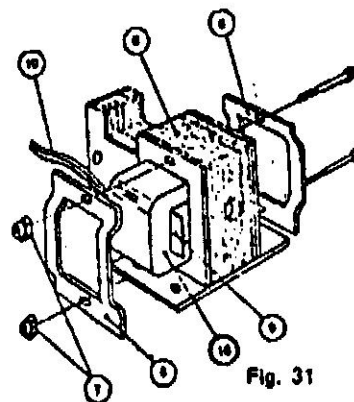
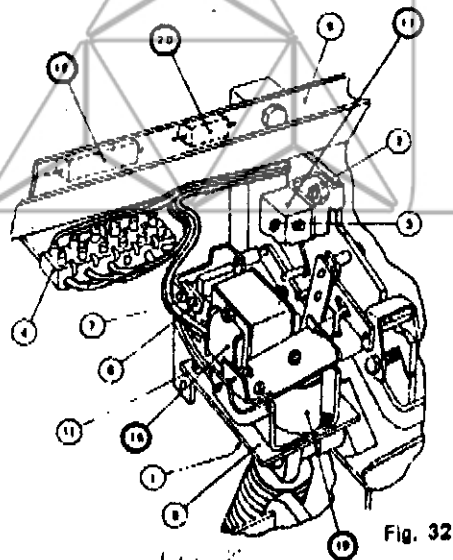

Fig. 31
Fig. 32
- H. Closing Solenoid (Fig. 31, 32). Slide coil and housing from plunger (Fig. 31) after removing coil wires from terminal block (4) and four mounting bolts (11). (Fig. 32) If breaker is equipped with closing preventer which would be mounted adjacent to the closing solenoid, the coil and housing cannot slide sideways. It is,
therefore, necessary to remove horseshoe retaining washer (8) and linkage pin from plunger so complete assembly may be lifted out. Coil may be removed from housing as illustrated in Fig. 31. When replacing, make adjustments as described in Chapter IV, Voltage Tripping Devices.
- I. Closing Preventer (Fig. 32). The closing preventer (19) located directly behind the closing solenoid, may be removed by removing coil wires and two holddown bolts from base (5). When replacing closing preventer, make adjustments as described in Chapter IV, Undervoltage Lockout.